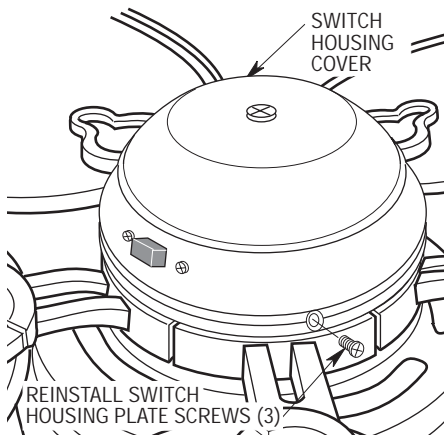

Figure 10
- 21. Position the switch housing assembly on the switch housing plate and align the holes in the switch housing assembly with the holes in the plate. Reinstall the three screws (previously removed in step 19) to secure the switch housing assembly (Figure 10).